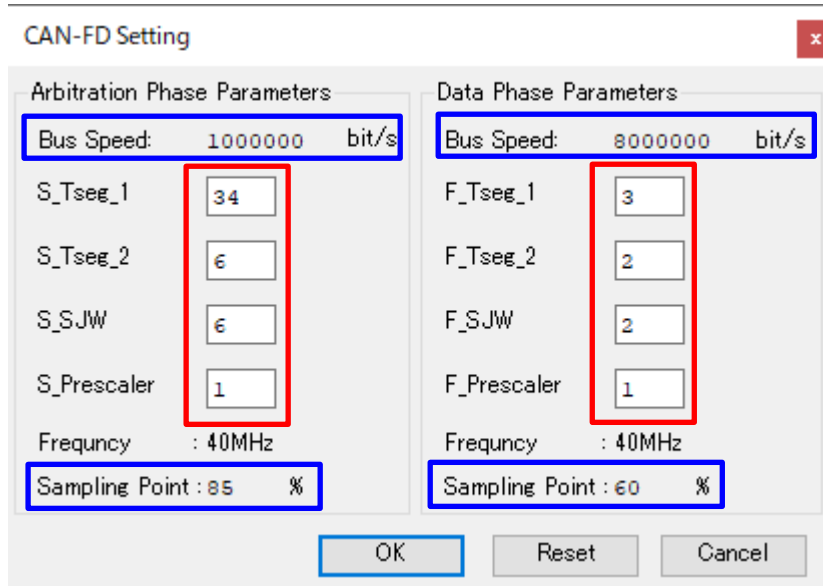

Figure 1
1. Enter each values in the red box in Figure 1.
2. Pressing OK button in Figure 1 will reflect the values on the main screen.
- Figure 1 Reset button: Resets the value to the value before editing.
- Figure 1 Cancel button: Cancels editing and returns to the main screen.